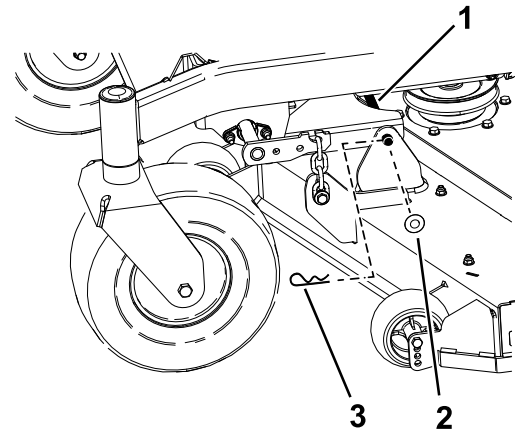

Figure 64
9. Secure the link pin with the hairpin cotters and washers removed previously (Figure 64).